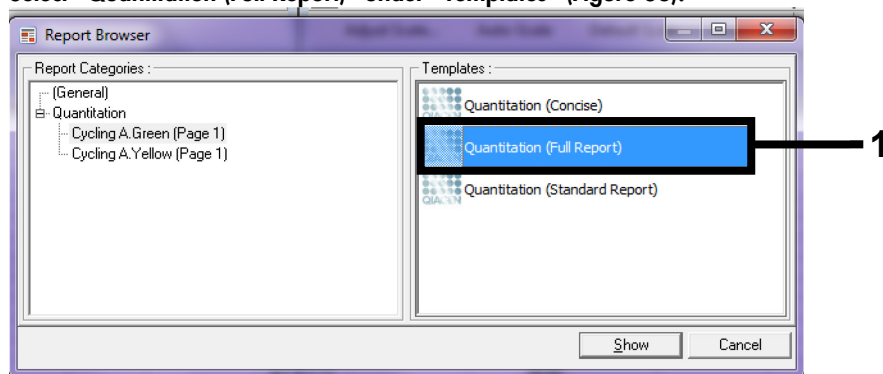

Figure 38. Quantitation report (Full Report) (1).
10. Select “Quantitation (Full Report)” under “Templates” (Figure 38).